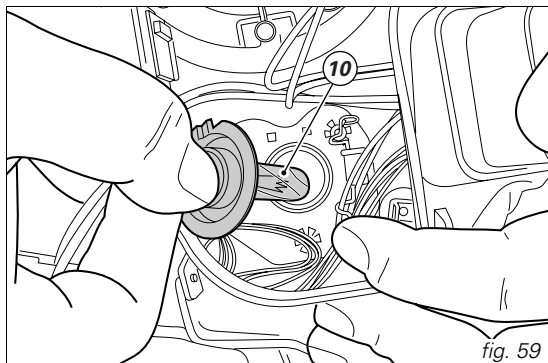

fig. 59
Remove the burned out bulb (10) and fit the new one, taking care not to touch the glass (fig. 59).